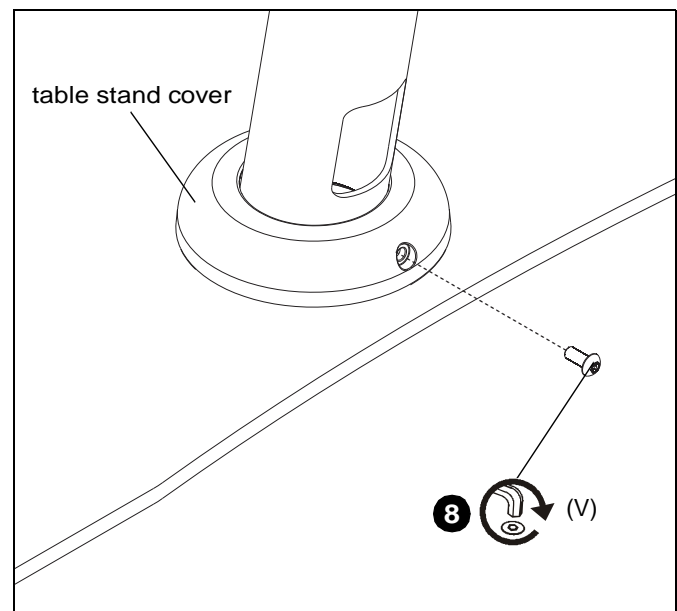

Figure 4
8. Use #10-24 x 1/2" security screw (V) to secure table stand cover to table stand (R). (See Figure 4)